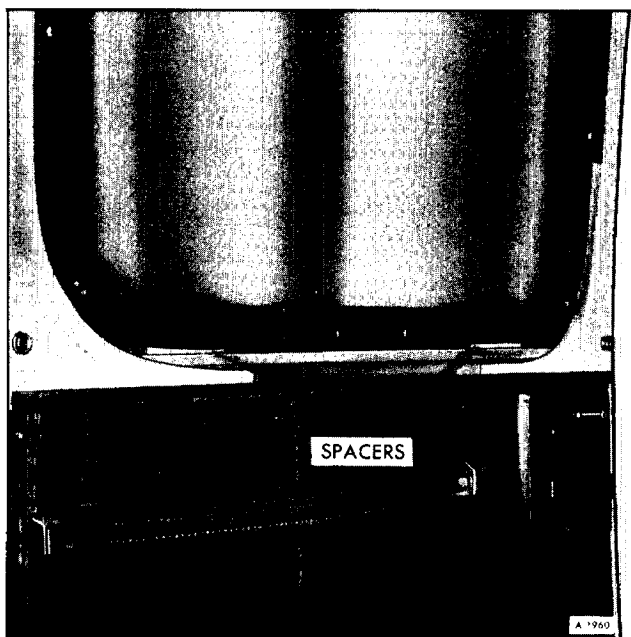

Figure 6—Sash Spacers
2. Install sash assembly. Position spacers as shown in Figure 6.
**NOTE:** Late model vehicles are not equipped with spacers (figure 6). A 3/16 inch gap should be maintained between sill and sash.